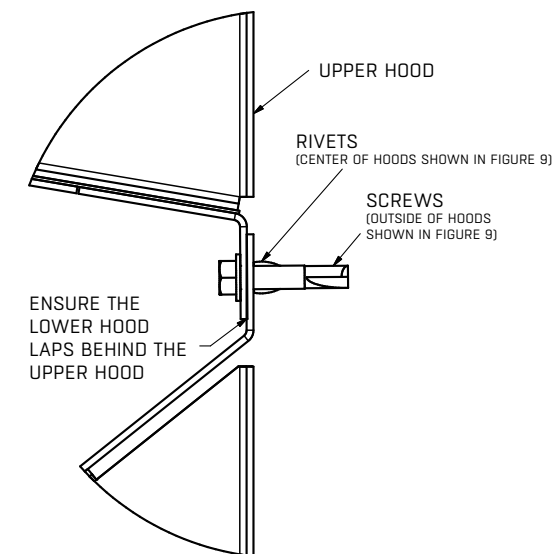
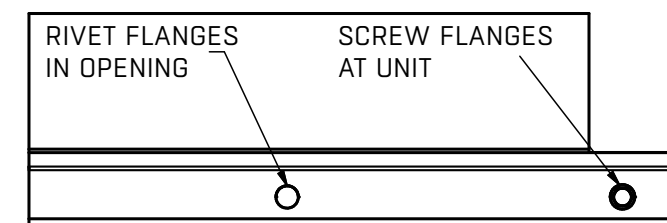

FIGURE 18.
FIGURE 19.
28) Position the next hood — align the holes in the bottom of flange of the upper hood with the top flange of the lower hood, ensuring that the lower hood laps **BEHIND** the upper hood as shown in FIGURE 18. Secure overlapping flanges at sides to the unit using screws through provided mounting holes. (See FIGURE 19)
30) Rivet the center mating flanges of the hoods together in the opening using the aligned holes. (See FIGURE 19)